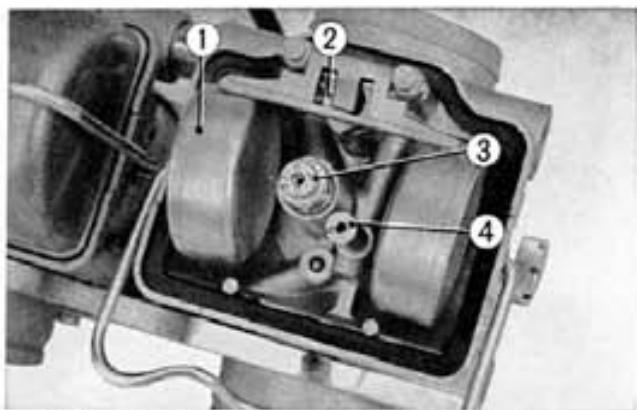

Fig. 6-6 ① Float ② Float valve set ③ Main jet ④ Slow jet
6. Remove the float chamber retaining clip and the following carburetor components can be removed with a small screwdriver: slow jet, main jet, needle jet holder, float and float valve set. (Fig. 6-6)